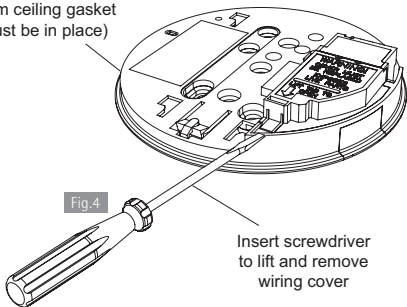

Fig.4
3. Lift off the wiring cover as shown in Figure 4.